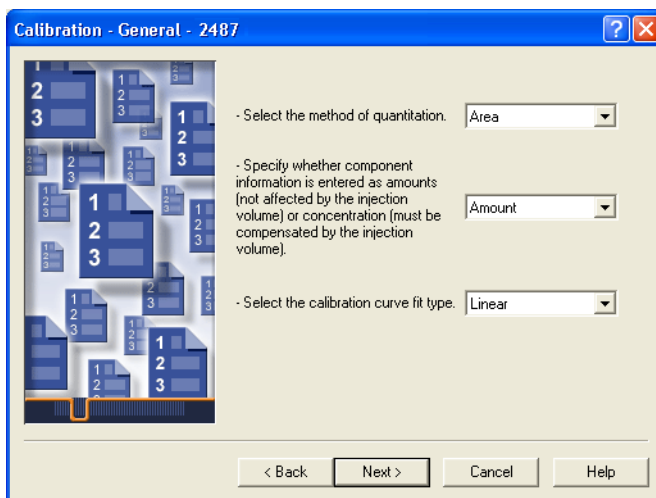

Figure 4-25 Processing Method Wizard, Calibration–General Page
12. When you are satisfied with the integration, click **Next**. The Calibration–General page appears (Figure 4-25).